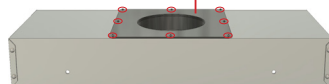

Figure 3
- Flip the hood body over so that the Vent Opening is facing the ceiling. Remove the screws around the Vent Opening and flip the black Vent Out Adapter over. **(Figure 3)**